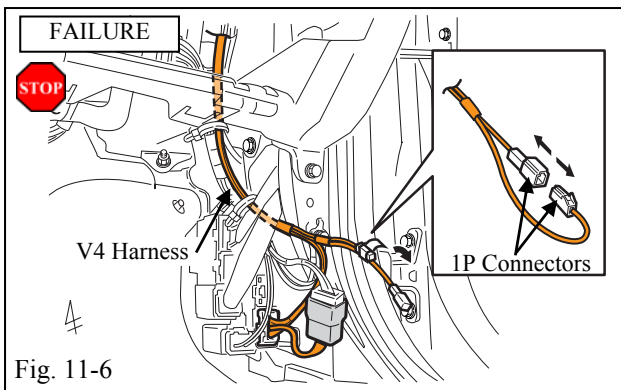

Fig. 11-6
- Disconnect the V4 Harness's White 1P Connectors in the Passenger's Side Cowl Area. (Fig. 11-6)